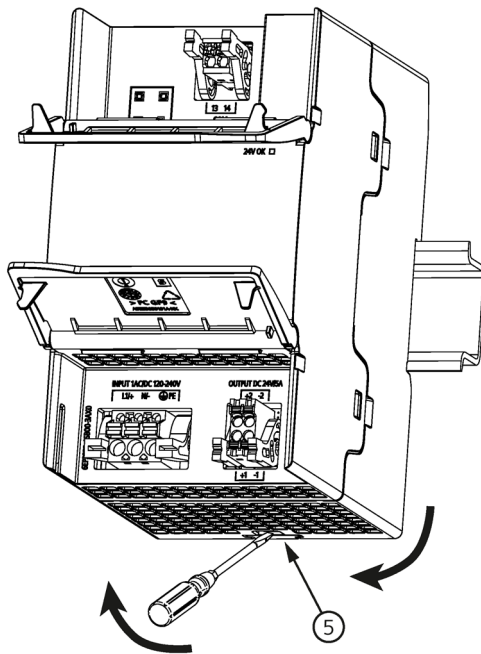

Figure 3-1 Mounting/removal
To remove, pull up the slider ⑤ using a screwdriver (see Figure 3-1 Mounting/removal (Page 16)) and disengage the device at the bottom edge of the standard mounting rail. Then you can remove the device from the upper edge of the standard mounting rail.